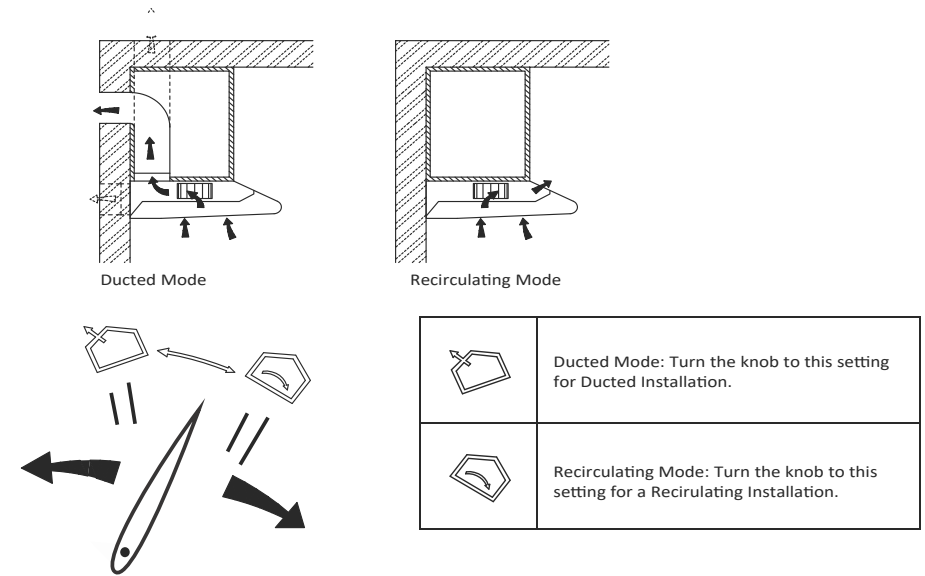

Fig.3 Venting mode
2. Locate Knob Settings located under the Motor (Fig. 3)